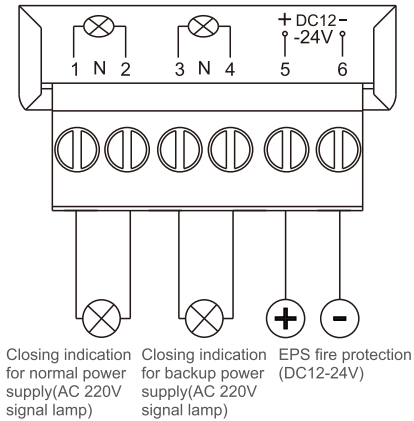

figure 5
6.3.2 Wiring diagram for the output terminal of intelligent type to see figure 5